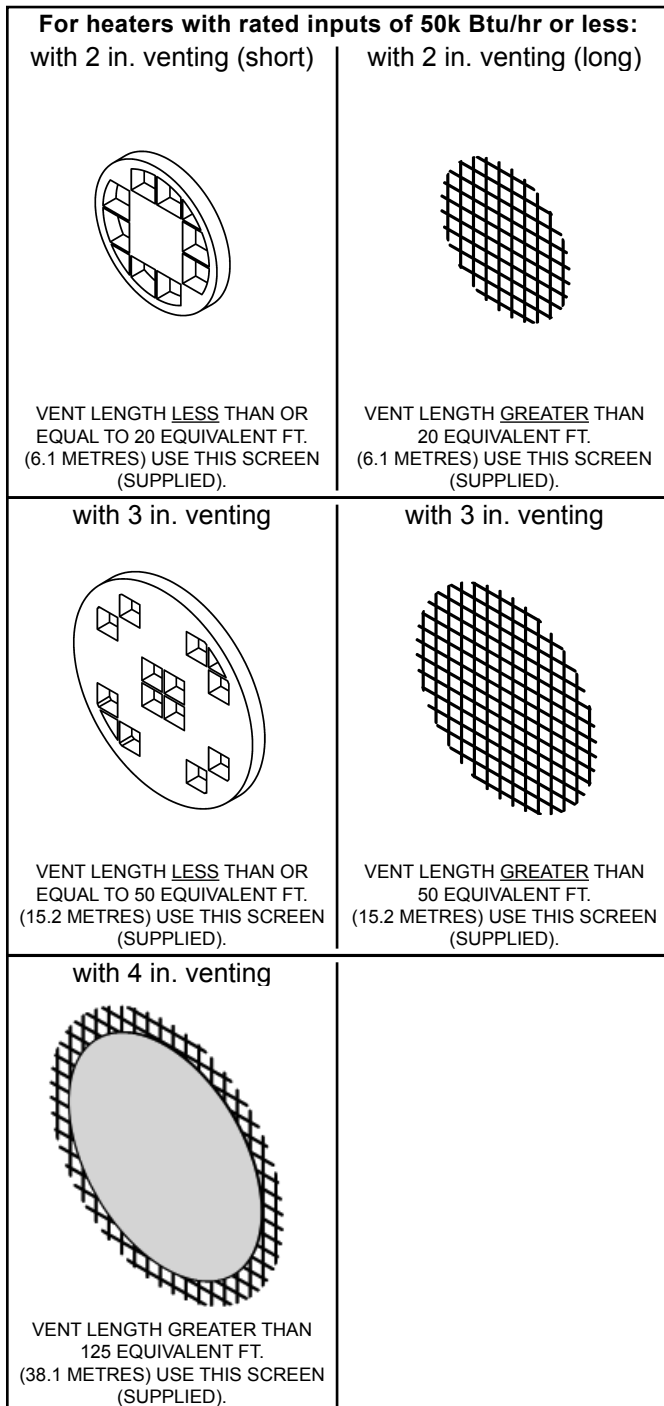
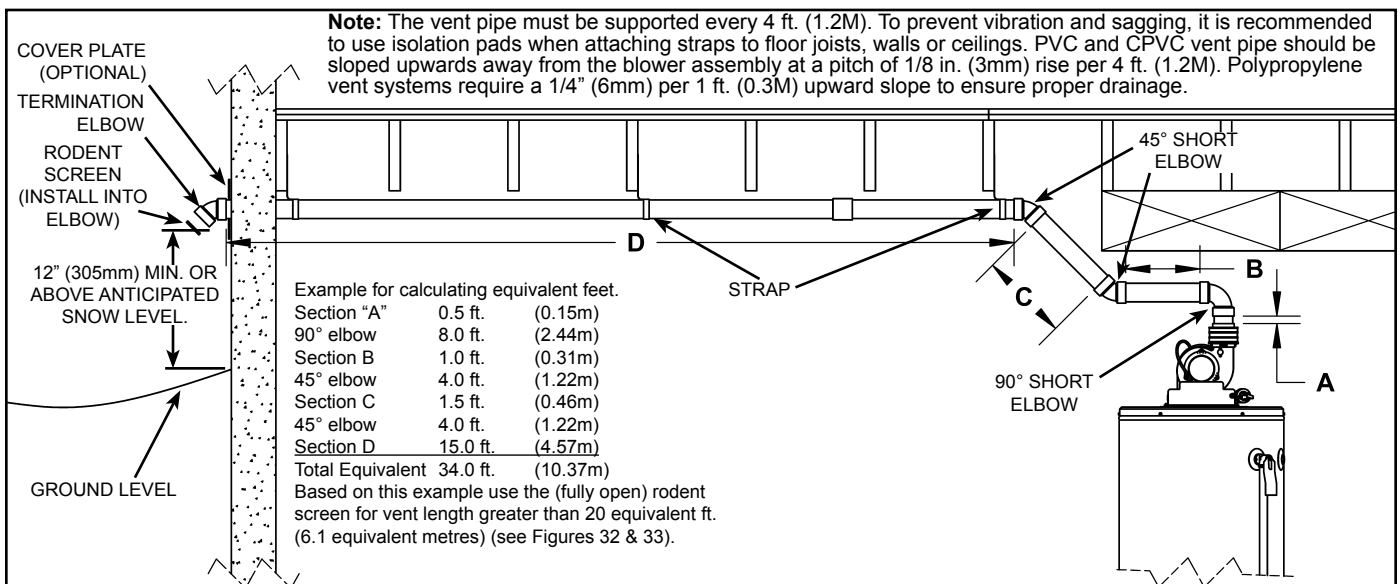
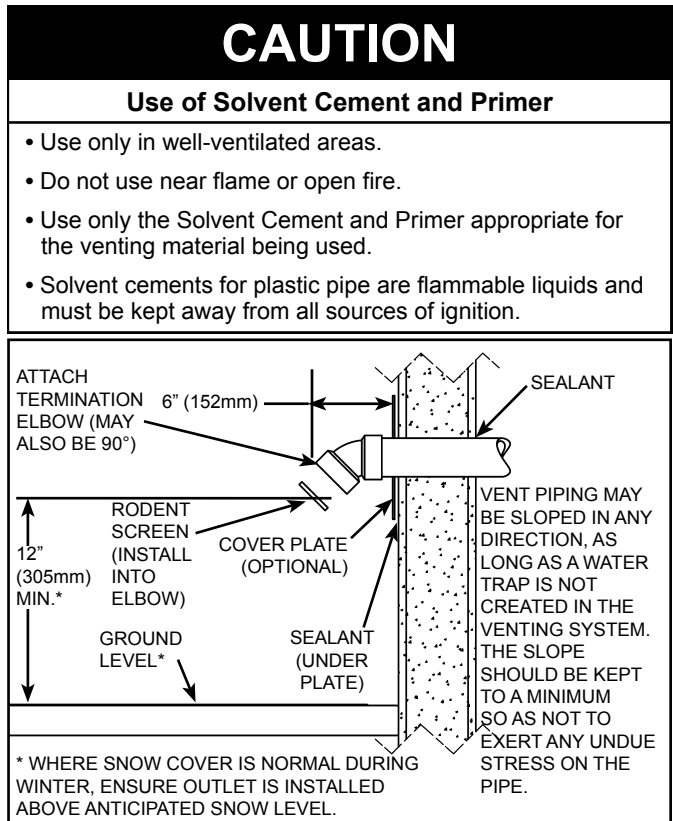
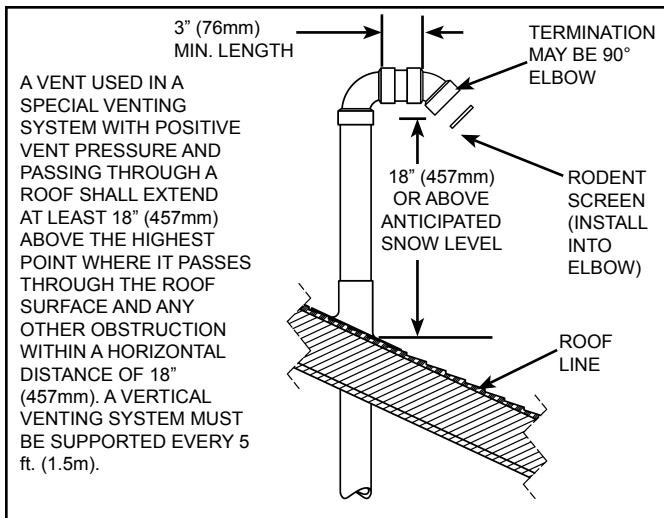

Figure 32
Figure 34
Figure 35
Figure 37
This heater is designed to exhaust the products of combustion (flue gases) to the outdoors using a sealed piping system. Table 2 lists the allowable vent materials and sizing information. Figure 34 shows the general venting layout while Figures 38-42 show various end termination details and clearances. Connection of the venting piping to the blower is shown in Figures 38-42.
- Refer to Figure 34 and Table 2 for vent pipe materials and sizing. Examples of the vent terminations are shown in Figures 35 & 36. If the installation requires a vent riser, suitable drainage must be provided to ensure condensation does not accumulate. Termination through a roof is shown Figure 37.
- Supplied with this heater are several vent termination screens (see Figures 32 & 33).
Installed in the vent termination elbow, the vent screen is required to keep foreign objects, rodents and small birds from entering the venting system. These screens have been sized to ensure maximum energy efficiency of the vent system based on the "equivalent length" of the vent piping. **CHOOSE ONLY the ONE SCREEN THAT MATCHES YOUR VENTING CONFIGURATION** (see Figures 32 & 33). How to determine the "equivalent length" is shown in Figure 34 and in Table 2.
5. Calculate "Equivalent Vent Length" before starting. Do not exceed the values shown in Table 2. An example of how this length is determined is shown in Figure 34. The value from your calculations should also be used to determine which rodent screen to install into the vent termination elbow.
11. Install the properly sized rodent screen into the outlet elbow and secure with a small quantity of silicone sealant. Refer to Figures 32 & 33 to determine the proper screen.